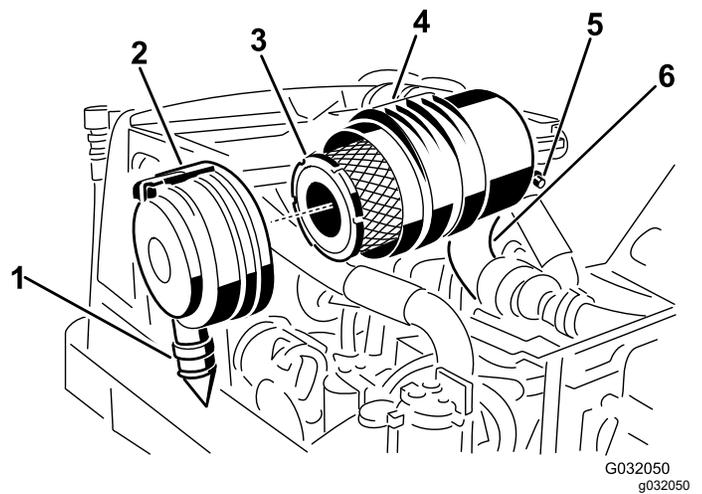

Figure 44
2. Remove the primary filter (Figure 44).
3. Replace the primary filter (Figure 44).
7. Install the cover, orienting the rubber outlet valve in a downward position between the 5 o'clock to 7 o'clock positions when viewed from the end, and secure the latch (Figure 44).